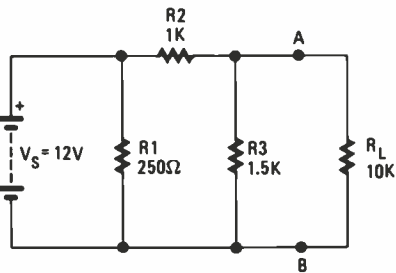
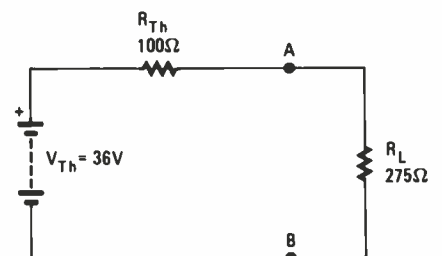

Fig. 5. Remember to use what you've learned to solve for this circuit.
Fig. 8. Use the handy formulas in the text to convert this Thevenin's equivalent into a Norton's equivalent.
1. Convert the circuit in Fig. 5 into its Norton's equivalent.
2. Change the Norton's equivalent circuit you derived from Fig. 5 into its Thevenin's equivalent using the conversion formulas. 3. Convert the circuit in Fig. 8 into its Norton's equivalent using the conversion formulas.